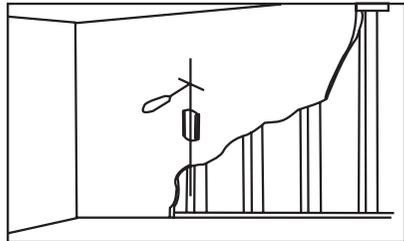

Fig 2b
Wooden wall (Fig 2b):
Using a awl or nail to make where the nails are located, as shown as fig.2b. Distance between two nails for fixing wall mount must not less than 12". Pre-drill these holes with a 5mm drill bit to a at least 80mm in deep hole. Please make sure these holes are level and located at center. Use wall mount as a template to mark the location of other three holes and drill the same holes. Fix the wall mount to the wall with 4 long bolts (O) and washers (Q).